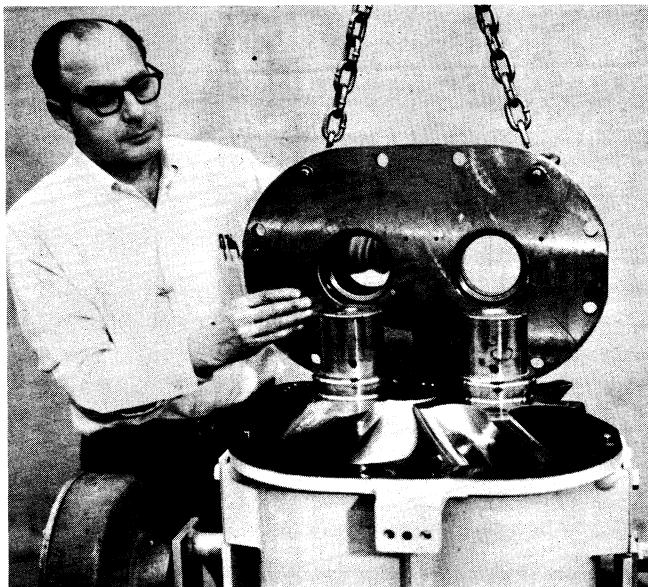
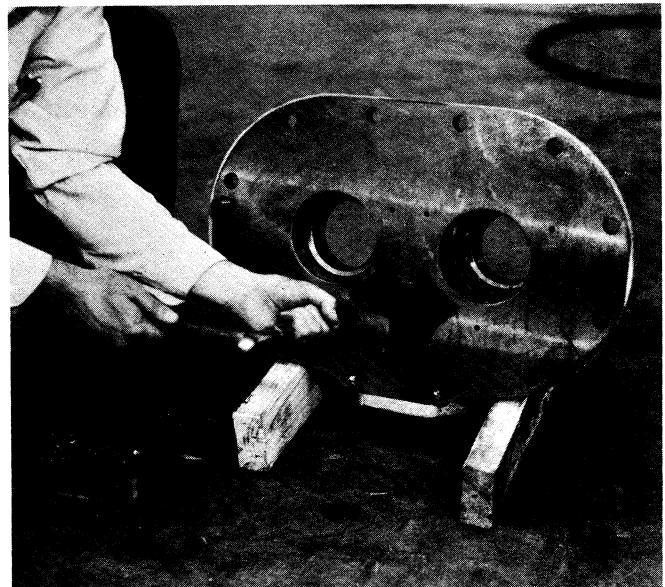

Figure 16
Figure 17
13. Remove the rear bearing housing. Refer to Figure 16. Remove and discard the rear bearing housing to rotor housing gasket. Tap the thrust bearings out of the rear bearing housing using a $1/8$ " diameter drift through the three holes provided around the outer race of each bearing. Refer to Figure 17.